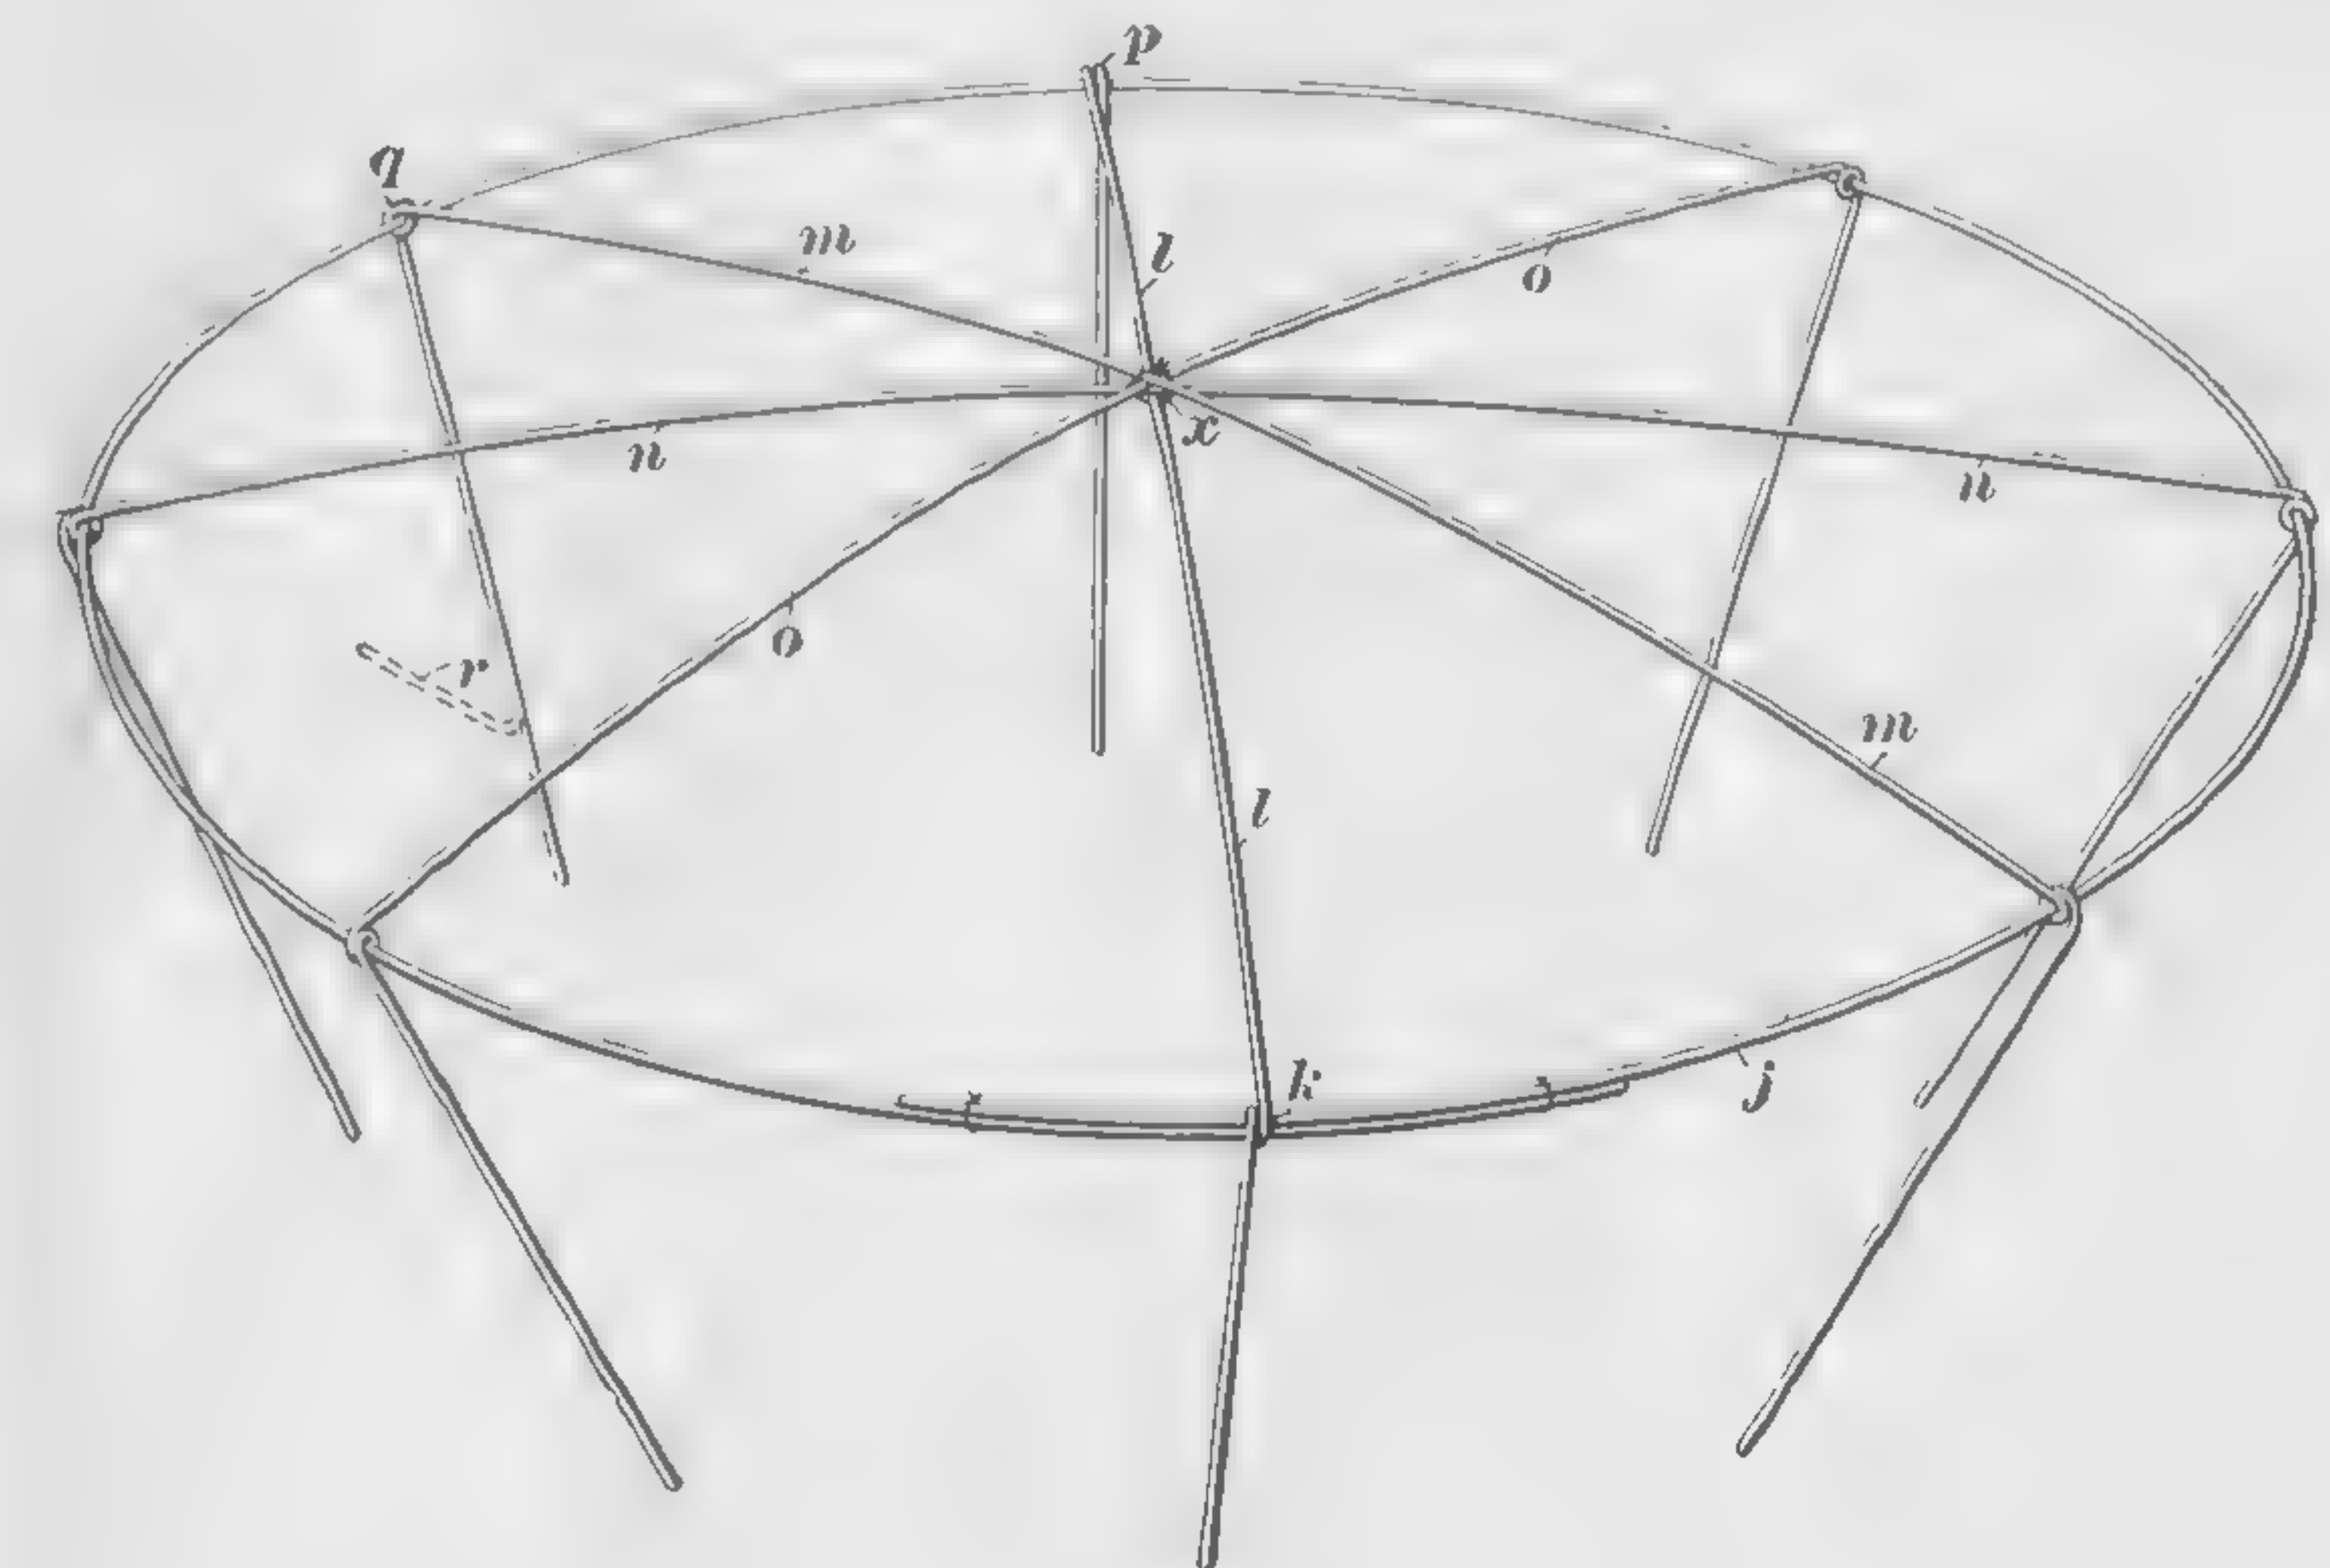

FIG. 20
length of the wire l must be $2+2\frac{1}{2}+9\frac{1}{2}+2\frac{1}{2}+2=18\frac{1}{2}$ in. The wires m , n , and o are now cut to the same length. Turn down $2+2\frac{1}{2}=4\frac{1}{2}$ in. at each end of each of these wires, and the distance between the bends will be $9\frac{1}{2}$ in., or the distance across the top brace wire. Lay the support wire across the circle j from k to p , bend the ends around the wire j at k and p , and turn them downwards and inwards a trifle. Now attach the wires m , n , and o in the same manner, at the equally spaced points that were marked on the wire j . When this has been done, the crown will be completed to the stage shown in Fig. 20, in which the length of each end projecting down from the wire j is $4\frac{1}{2}$ in.
30. Now, on each of the projecting ends of the support wires in Fig. 20, with a piece of paper $2\frac{1}{2}$ in. long as a gauge, measure down